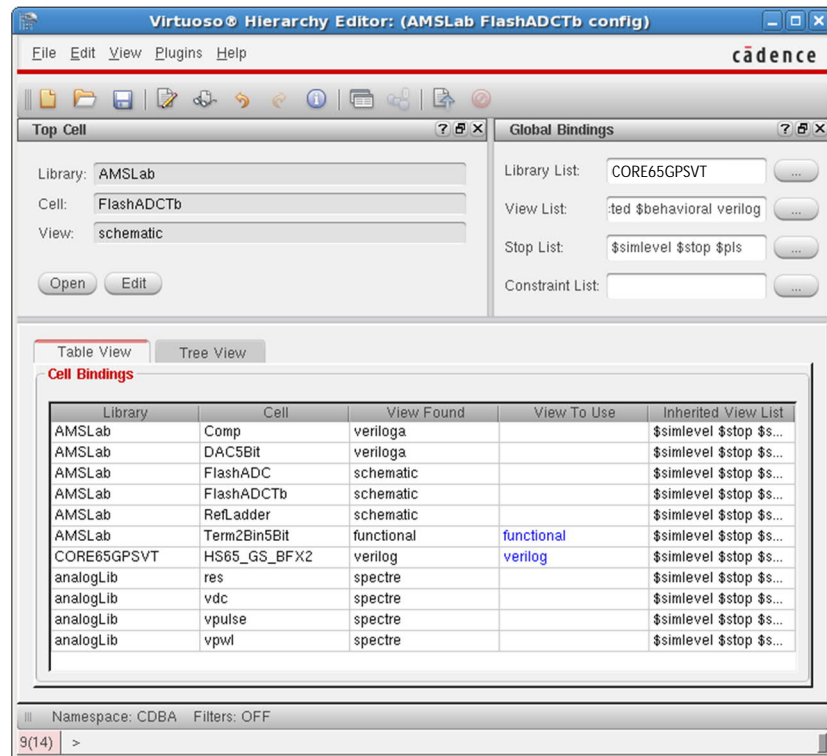

Figure 6. The flash ADC test bench config view (Table View).
- e. In the **config** view, add **CORE65GPSVT** in the **Library List** and **verilog** in the **View List** (in the **Global Bindings** sub-window) and save. It is possible to check or edit the value of the constants **\$simlevel**, **\$stop** etc. in the **View List** and **Stop List** by selecting *Edit > Constants...* The **config** view should be similar to the one in Figure 6.